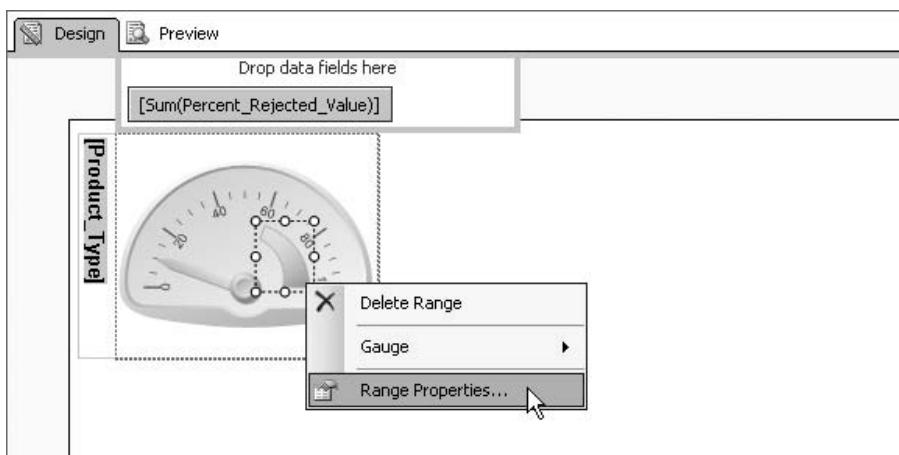

Figure 16-65 Selecting the gauge range
59. Click the range on the gauge to select it. Right-click the range and select Range Properties, as shown in Figure 16-65. The Radial Scale Range Properties dialog box appears.